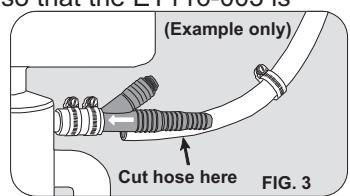

FIG. 3
The ET116-003 is designed to be used downstream of an approved airgap faucet and dishwasher air gap (when installed in conjunction with a dishwasher). Most dishwashers have a built-in check valve, but these often fail. Some states require the installation of a manufactured dishwasher air gap, while other states permit the drain hose to loop up from the dishwasher to the underside of the sink before descending to the disposal (See Fig. 3). Do not install an ET116-003 (with dishwasher) in the absence of one of these types of airgaps – use an ET109-003 or ET112-003.
7. Lift the tail of the adapter slightly higher than horizontal, and position semi-taut hose behind it. Measure the hose against the selected barb. (See Fig. 3)
8. Cut off excess hose squarely with a sharp knife. Reuse original spring or hose clamp by sliding over the hose. (See Fig. 3)